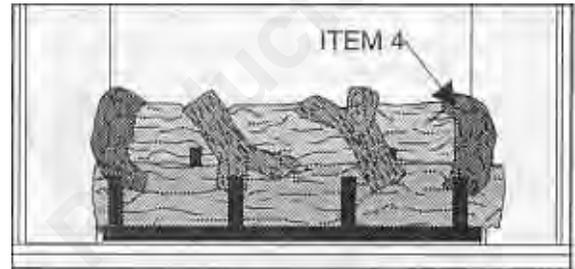

Figure 46
7. See Figure 46. Position the remaining "hooked" Log (Item 4) with the "hook" on the second indentation from the right on the Back Log. The "straight" portion of the log will lay on the second indentation from the right on the Front Log.